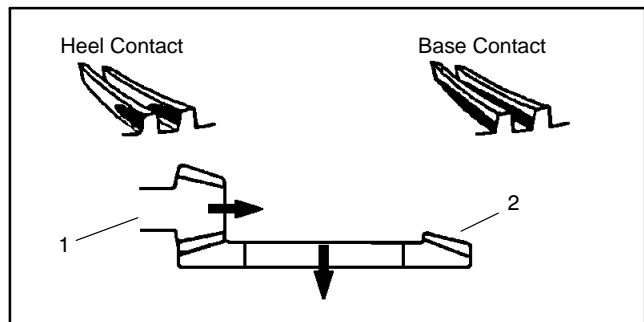

Figure 41
1. If contact is toward the heel or base of the gear (Fig. 41):